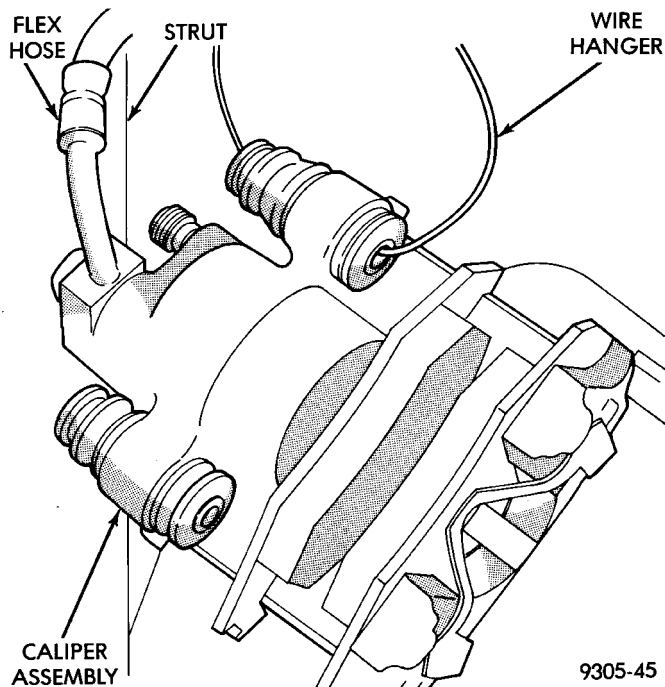

Fig. 74 Storing Caliper
(5) Support caliper assembly firmly from rear strut to prevent weight of caliper from damaging the flexible brake hose (Fig. 74).